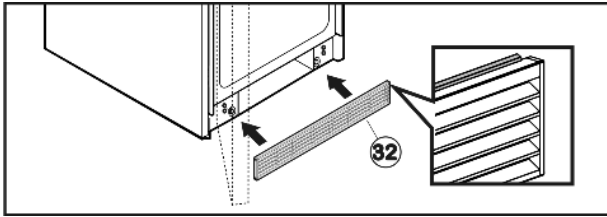

Fig. 43
- Fit lower ventilation grille Fig. 43 (32) flush with the floor such that the rubber lip is at the top. It is held in place via magnets.